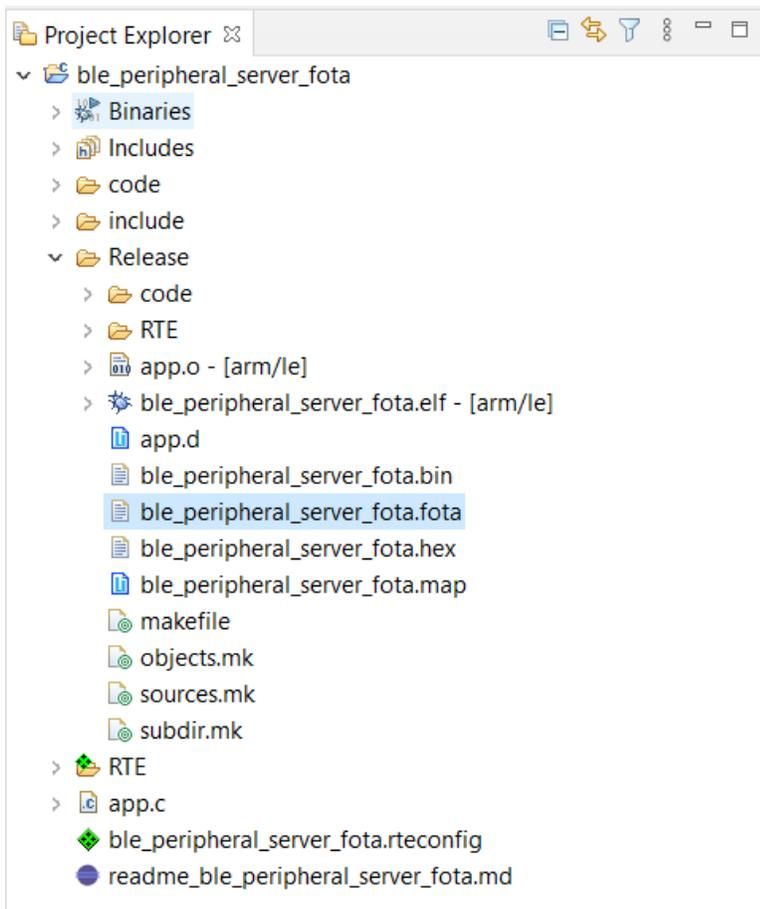

Figure 7. .fota Image in Release Folder
4. Build the `ble_peripheral_server_fota` project. After a successful build, the `ble_peripheral_server_fota.fota` image is generated under the `Release` folder, as seen in the ".fota Image in Release Folder" figure (Figure 7):